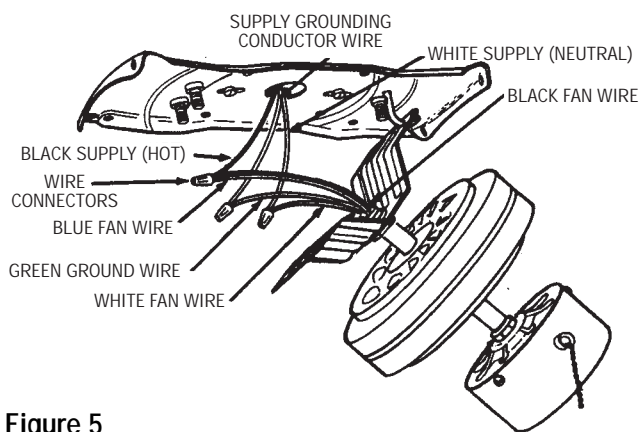

Figure 5
- 2. Connect the fan motor white wire to the supply white (neutral) wire using a listed wire connector (Figure 5).
- 3. Connect the fan motor black wire and blue wire to the supply black (hot) wire using a listed wire connector (Figure 5). Your fan is now wired to be turned on and off from the fan switch. After connections have been made, turn leads upward and carefully push leads into the outlet box, with the white and green leads on one side of the outlet box and the black and blue leads on the other side of the outlet box.